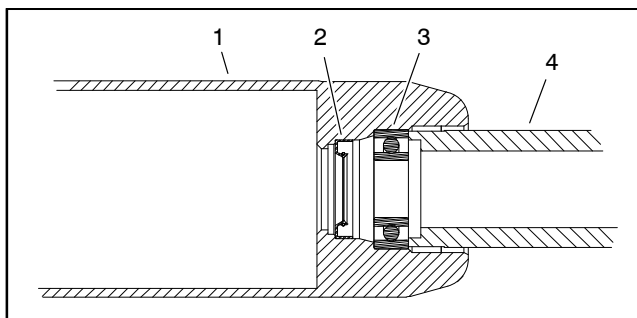

Figure 50
A. Position a new bearing into one end of roller tube. Use bearing/outer seal tool (see Special Tools) with a soft face hammer to fully seat bearing against roller shoulder (Fig. 50). After bearing installation, make sure that it rotates freely with no binding.